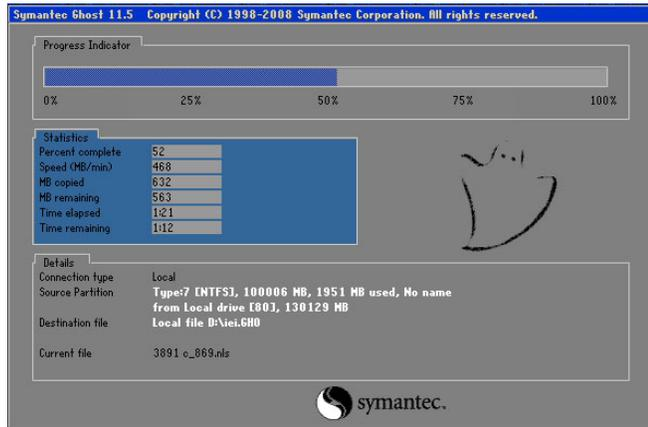

Figure D-28: Creating Image
Step 8: The Symantec Ghost starts to create the factory default image (**Figure D-28**).